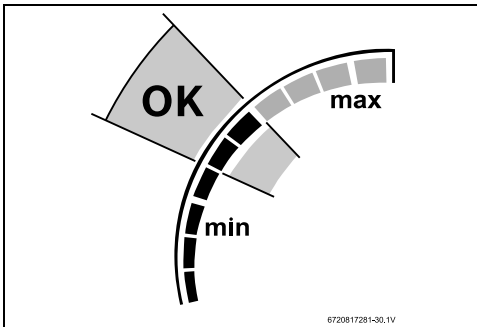

Fig. 46 Power bar middle point
- ▶ Verify if power bar level is at middle point, see fig. 46.
- ▶ Verify if power by level is at middle point, see fig. 46.